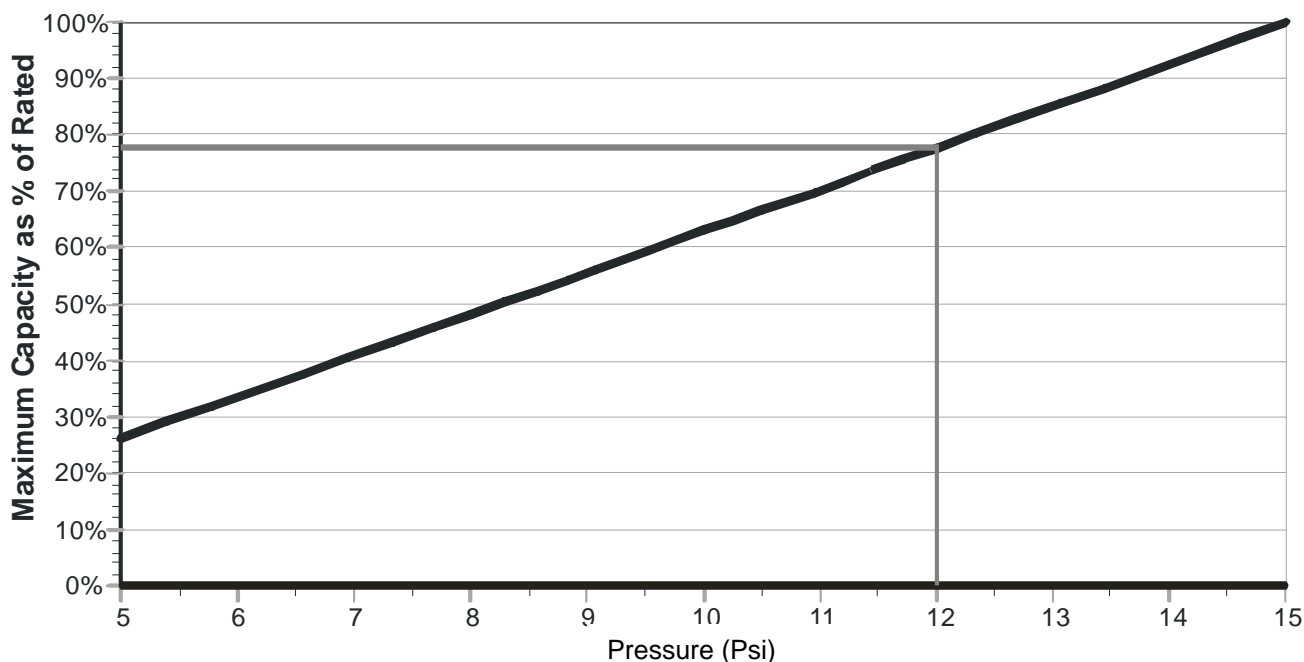

Figure 11: Output as a Function of Supply Steam Pressure
One of the unique features of the steam exchange humidifier is that its maximum output is affected by the steam supply pressure. Models are designated by the capacities at maximum supply pressure of 15 psi. An SETC 1050 will produce 1050 lb/hr (477 Kg/hr) of steam when supplied with 15 psi steam. If the available steam supply pressure is lower than 15 psi then the output will be reduced as shown in Figure 11. Table 5: SETC/P Capacities and Water Consumption also provides steam output at 10 and 5 psi supply pressures.
- 1 From Figure 11 the output will be reduced to 78% at 12 psi supply pressure.